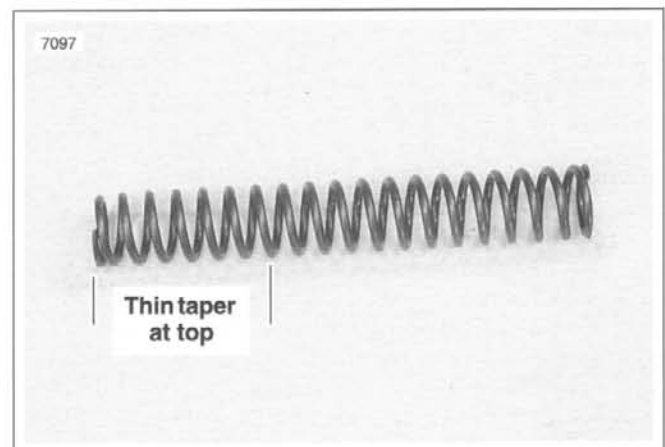

Figure 2-102. Spring Installation
16. See Figure 2-102. Install the spring, with the taper side at top, and the spring collar and spring joint.